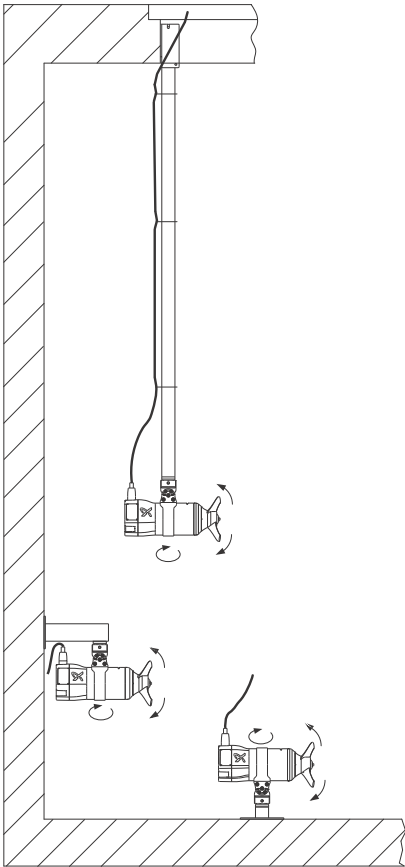

Fig. 5 SMD.13 - 23.xx.xxxx.T
- fixation bracket and tube for suspended mounting. See fig. 5
- fixation bracket for wall mounting. See fig. 5
- fixation base for floor mounting. See fig. 5